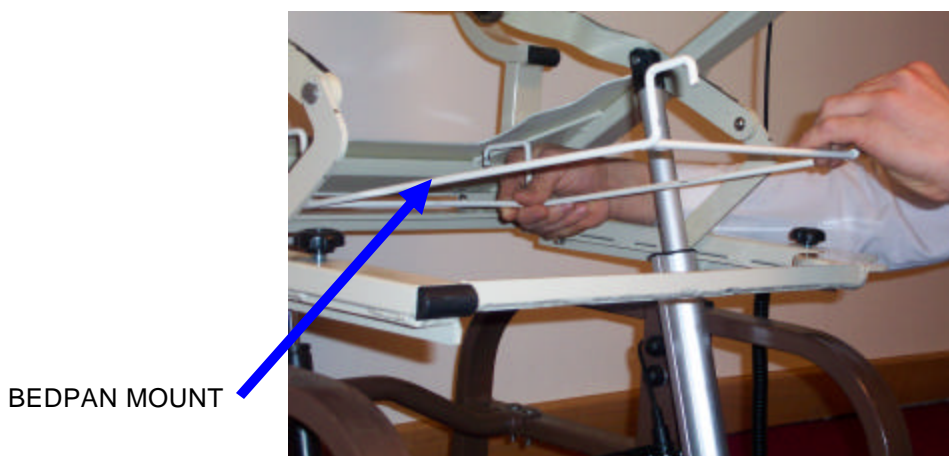

Figure M-8. Bedpan Mount Removal
- c. Remove the bedpan mount from the frame as shown in Figure M-8.